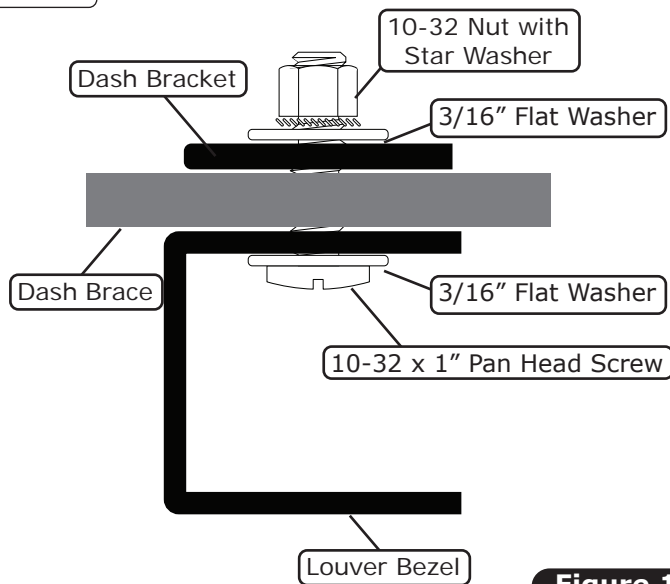

Figure 1
1. With the louver bezel and the dash bracket secured to the evaporator, drill (2) 7/32" holes (See Photo 1, below) aligned with the center of the slots on the evaporator dash bracket flange. Drill through the OEM dash brace and the top of the louver bezel. Attach the dash bracket to the dash brace through all drilled holes using (2) 10-32 x 1" screws, (4) 3/16" x 1/2" flat washers, and (2) 10-32 nuts with star washers (See Photo 1 and Figure 1, below).